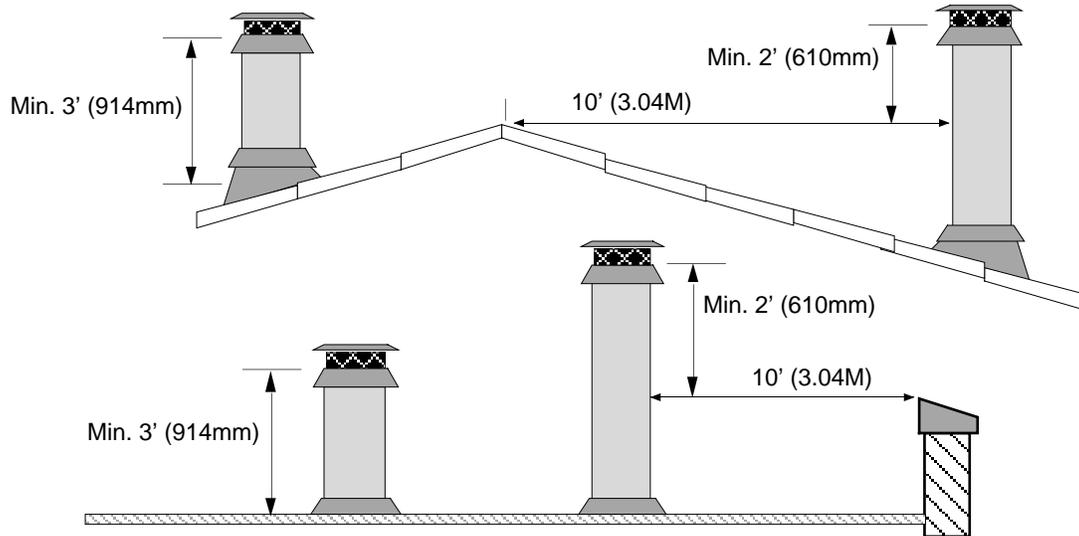

Figure 6
- Must terminate at least 3' (914mm) above the roof and at least 2' (610mm) above any portion of the roof within 10' (3.04M) - see Figure 6 below.